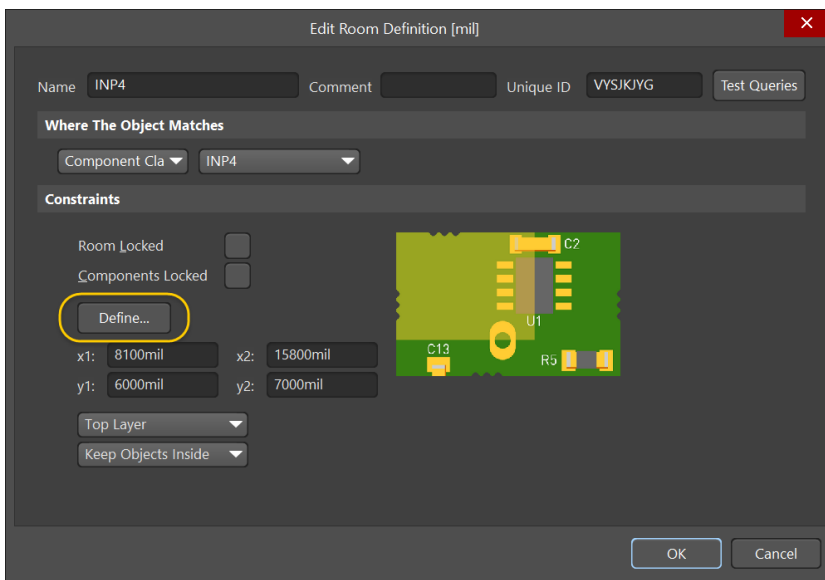

Figure 5. Defining the size of the room
8. Click **Define...** to resize the room as shown in Figure 5.